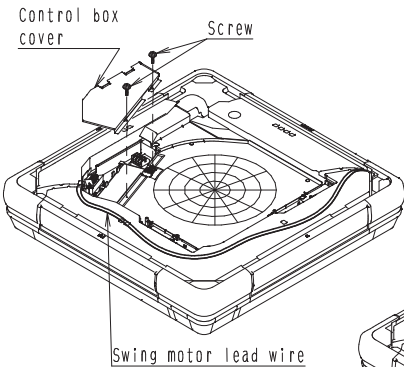

Fig. 1-1
(1)Remove a suction grille and open a cover of the electric component box (2 screws). Fig. 1-1
(2)disconnect the swing motor lead wire from the bell mouth, Fig. 1-1